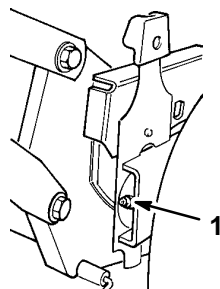

Figure 31
1. Wipe the grease fittings on the rear height-of-cut adjusters (Fig. 31) with a clean rag.